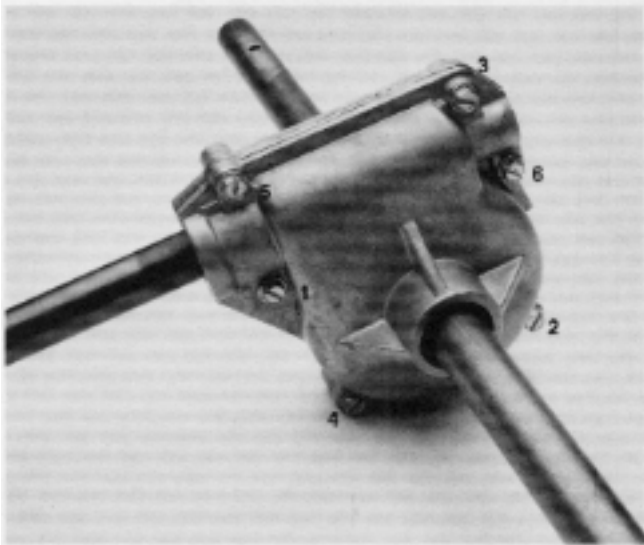

Figure 95
14. Coat the auger gearbox screws with oil to prevent seizing. Secure with the six flanged head self tapping capscrews. Tighten to 1.38 kg m (120 in lbs) in the order shown in Figure 95.